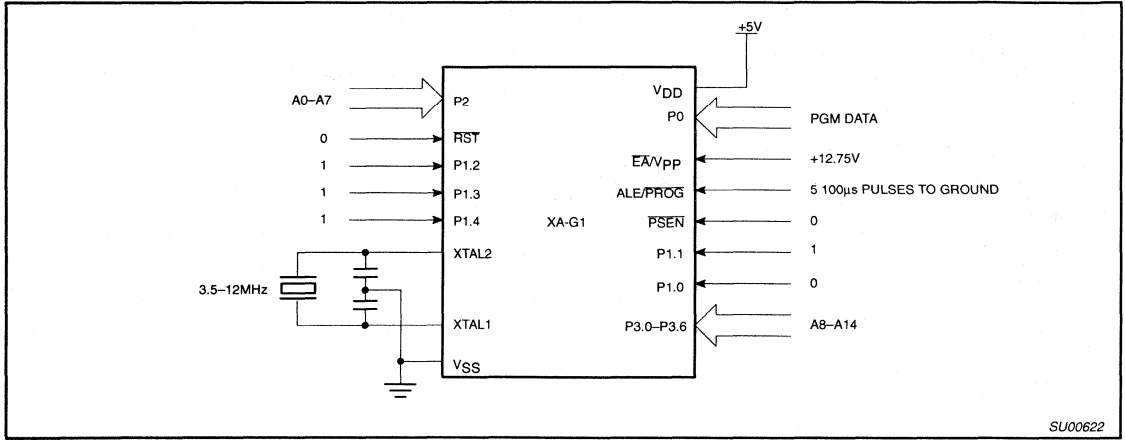
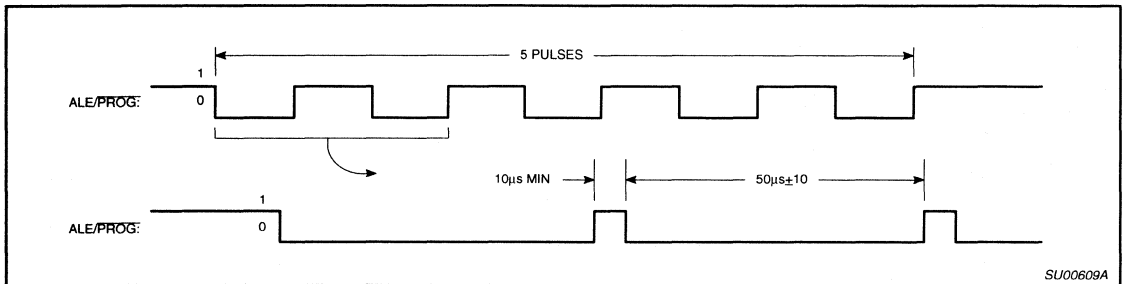
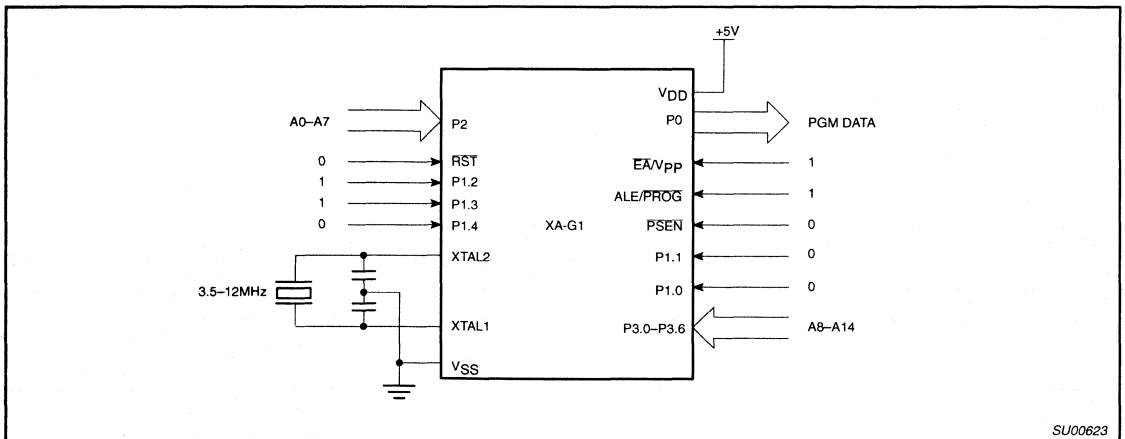

Figure 24. Programming Configuration for XA-G1
Figure 25. PROG Waveform
Figure 26. Program Verification for XA-G1
Table 5 shows the logic levels for reading the signature byte, and for programming the code memory and the security bits. The circuit configuration and waveforms for quick-pulse programming are shown in Figure 24. Figure 26 shows the circuit configuration for normal code memory verification.
The setup for microcontroller quick-pulse programming is shown in Figure 24. Note that the XA-G1 is running with a 3.5 to 12MHz oscillator. The reason the oscillator needs to be running is that the device is executing internal address and program data transfers.
The address of the EPROM location to be programmed is applied to ports 2 and 3, as shown in Figure 24. The code byte to be programmed into that location is applied to port 0. RST, PSEN and pins of port 1 specified in Table 5 are held at the 'Program Code Data' levels indicated in Table 5. The ALE/PROG is pulsed low 5 times as shown in Figure 25.
If security bits 2 and 3 have not been programmed, the on-chip program memory can be read out for program verification. The address of the program memory locations to be read is applied to ports 2 and 3 as shown in Figure 26. The other pins are held at the 'Verify Code Data' levels indicated in Table 5. The contents of the address location will be emitted on port 0.
- * FOR PROGRAMMING CONDITIONS SEE FIGURE 25.
- FOR VERIFICATION CONDITIONS SEE FIGURE 26.